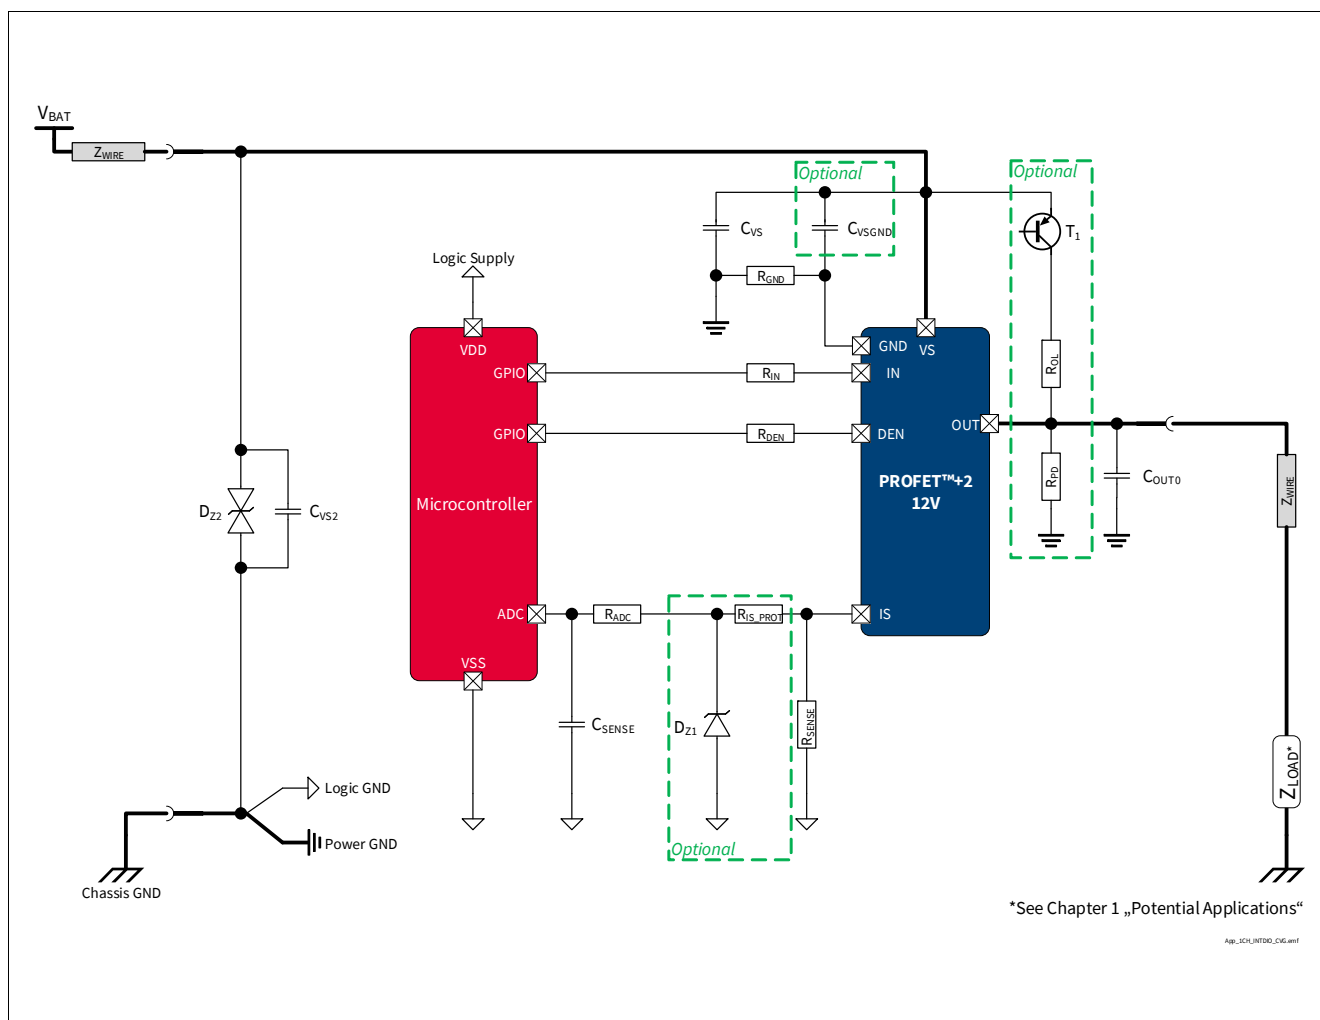

Figure 37 BTS7006-1EPP Application Diagram
1.04 , 2019-10-15	P_8.7.12.1, P_8.7.12.7, P_8.7.12.8 updated (added in Note or Test Condition: link to Figure 24) P_7.5.12.5 updated (added in Note or Test Condition: see Figure 18) P_8.7.12.6 updated (added in Note or Test Condition: see Figure 25) Figure 1, Figure 37 updated P_4.3.0.7 added Table 22 updated Chapter 5.1 updated (added: see Chapter 10 for the complete application setup overview) Chapter 9.2 updated ($2\text{ V} \rightarrow V_{\text{DS(OLOFF)}}$) General: updated (ReverSave™ → ReverseON)
1.01 , 2018-06-14	Page numbering corrected Figure Application Diagram, Figure 29, Figure 37 updated